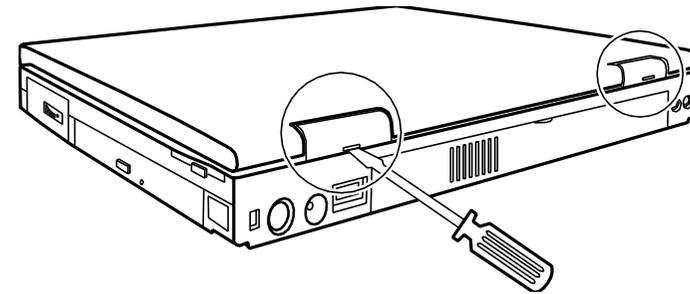

Figure 5-22. Removing the Hinge Covers
1. Remove the hinge cover by inserting a flat screwdriver to the rear of the cover and pry the cover out. Repeat the same with the other hinge cover. (Refer to Figure 5-22).
3. Replace the two hinge covers. (Refer to Figure 5-22 earlier.)